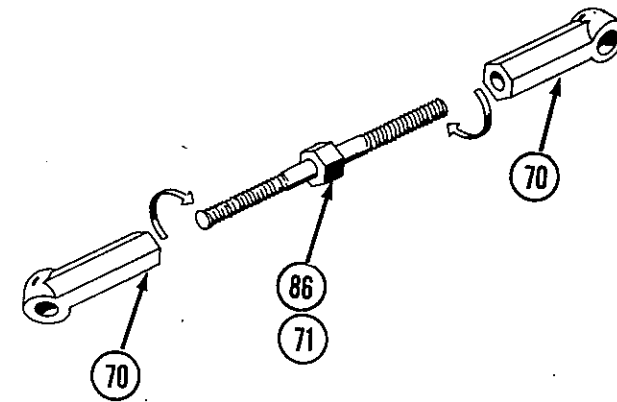

FIG. 37
13. Thread an adjustable rod end (70) onto each end of a 1 1/2" turnbuckle (86). Repeat once more. Fig. 37.
14. Thread an adjustable rod end (70) onto each end of a 1 7/8" turnbuckle (71). Repeat once more. Fig. 37.
\* NOTE: One end of turnbuckle has left hand threads. Fig. 37